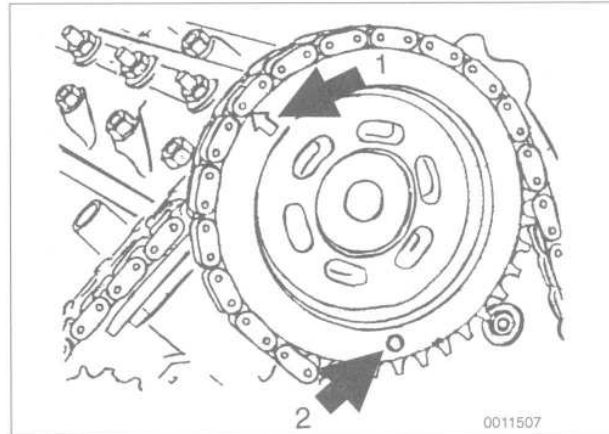

Fig. 54. Intake sprocket correctly aligned to camshaft with arrow pointing up (1) and sensor pin in lower left (2).
8. Install intake sprocket (right cylinder head) to timing chain and camshaft with arrow on sprocket pointing up and dowel pin for camshaft position sensor in lower left. See Fig. 54.